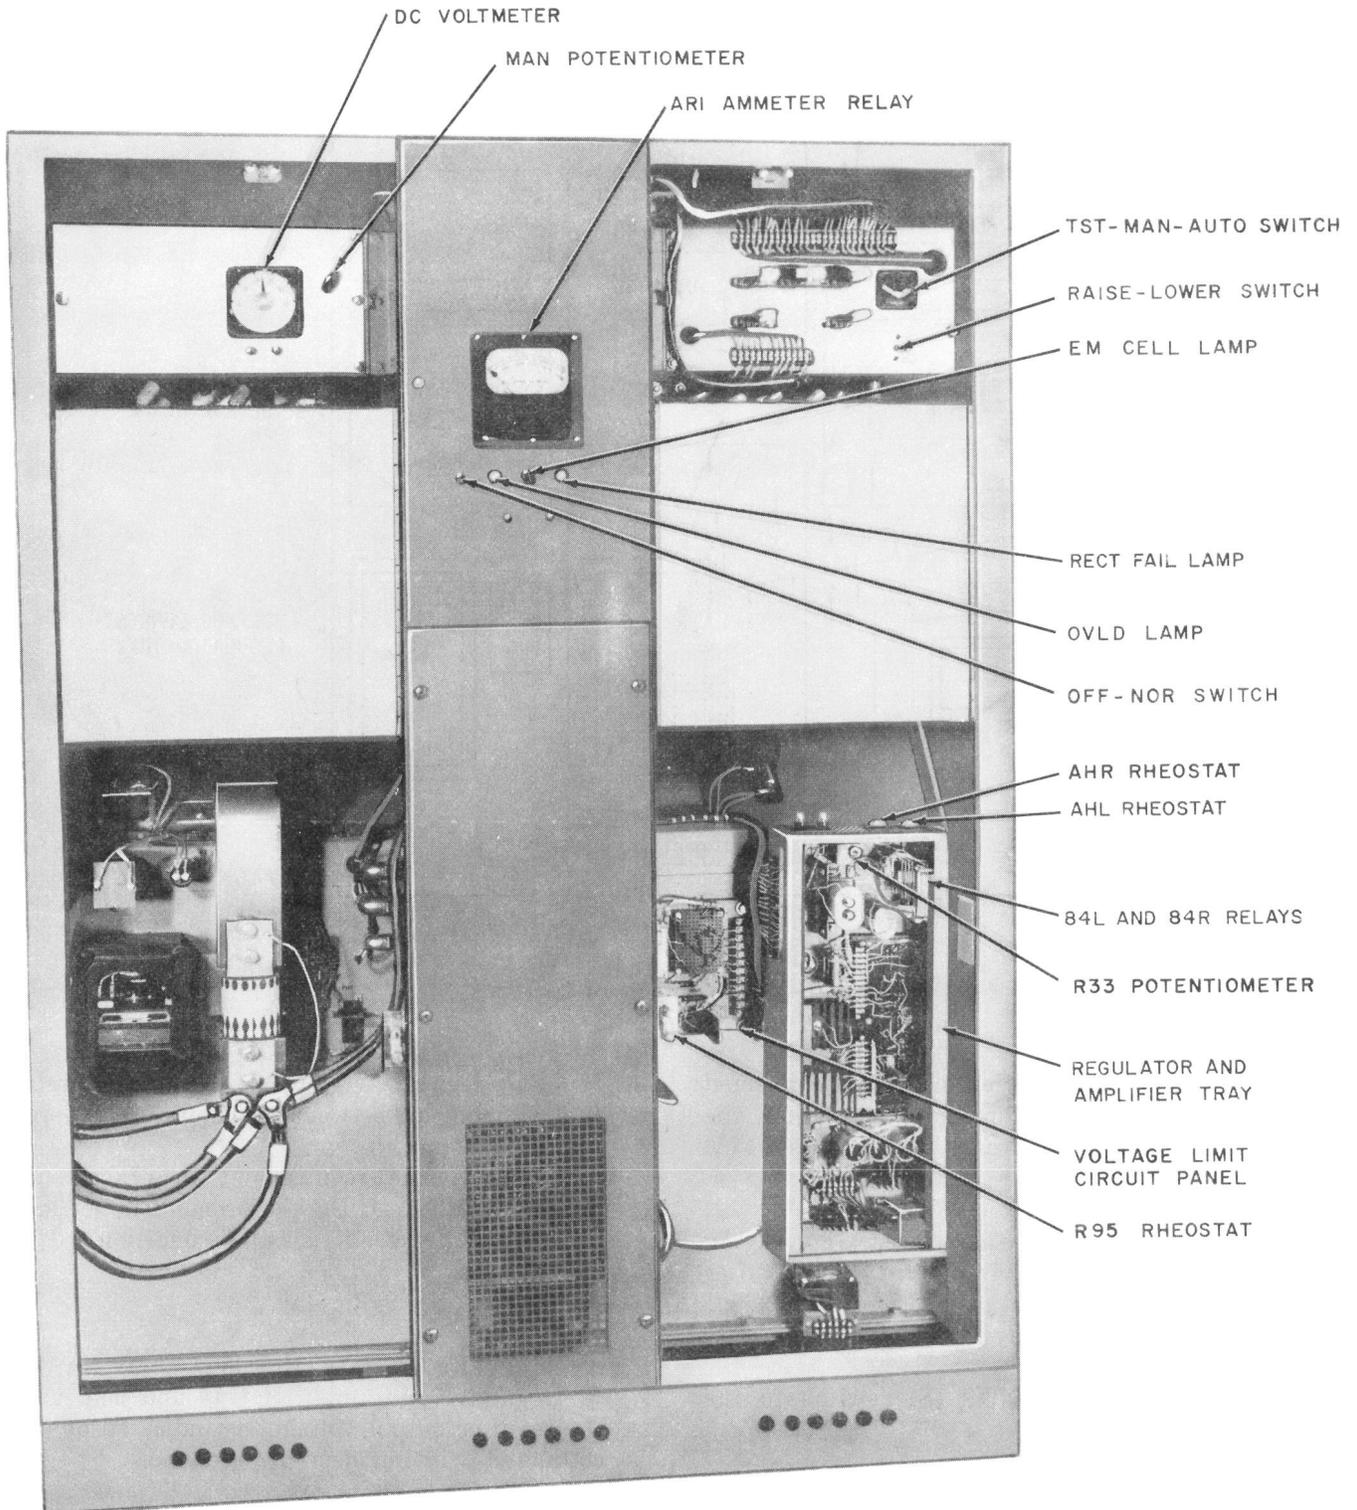

Fig. 1—KS-19212, L1 and L2, Rectifiers—Front View With Door Open
1.07 See Fig. 1, 2, and 3 for the locations of the major rectifier controls and components.